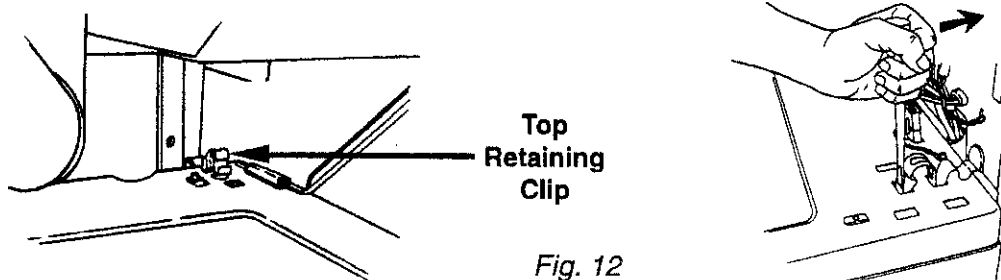

Fig. 12
2. Release the two washer top retaining clips and slide the washer top forward off the unit. (Fig. 12)